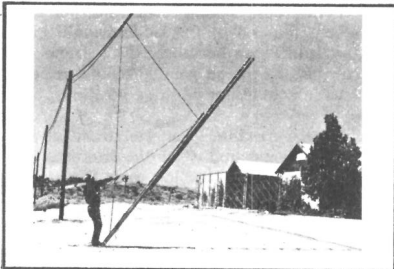

FIGURE 26.
17.07 Pull the handline hand over hand. As the top end of the ladder is raised off the ground, keep both feet in position to block any movement of the base of the ladder to the rear. See Figure 26.